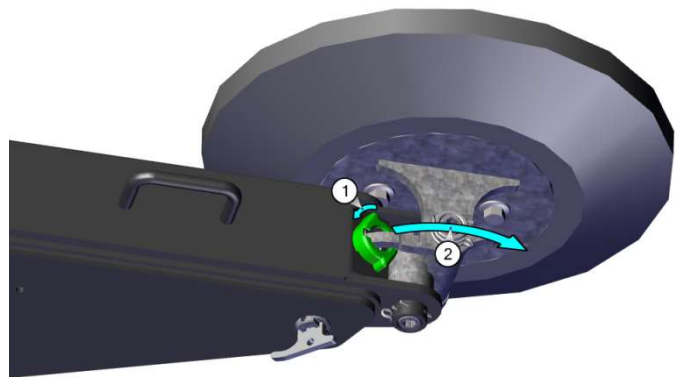

Figure: 35
Hold the outrigger pad firmly when releasing the outrigger pad to prevent crushing of the fingers (see also figure 35).
- Hold the plastic outrigger pad with one hand and turn the plastic ring to the right with the other hand (see figure 35) **ATTENTION!** hold the outrigger pad firmly to prevent crushing of the fingers.